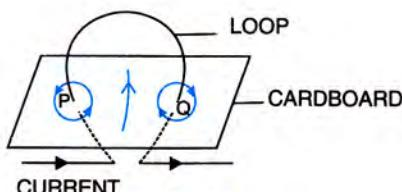

Fig. 10.14
- (a) Fig. 10.14 represents **three** magnetic field lines due to the current carrying loop. Two magnetic field lines are shown, one each at points P and Q where the loop passes through the card board, and one magnetic field line is shown at the centre of loop. At P, current is upwards, so magnetic field line is